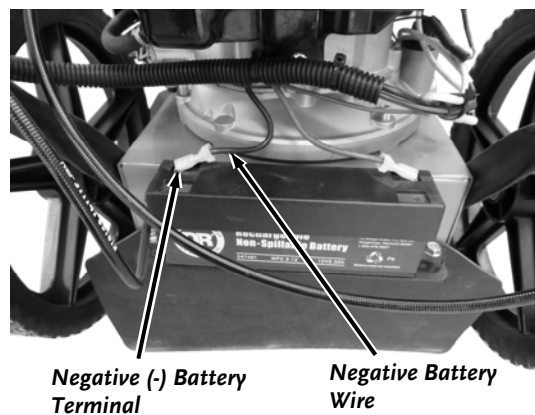

Figure 9
1. Connect the black wire by pushing the plastic connector onto the negative (-) Battery terminal (**Figure 9**).